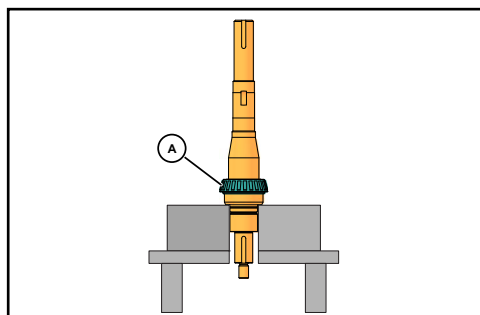

Figure 54 - Press Lower Cone onto Shaft
3. Lift the lower cone and roller assembly (Figure 54, item A) out of the bearing stack and place it on the shaft with the radius facing down. Press it onto the shaft until it is seated against the shaft shoulder. **Press only on the inner cone.**